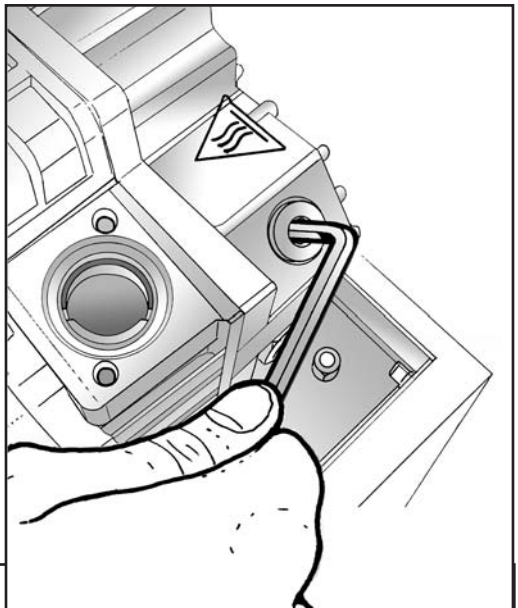

Fig. 10
7) Use a setscrew wrench to undo the oil filling cap at the top of the pump (Fig. 10).